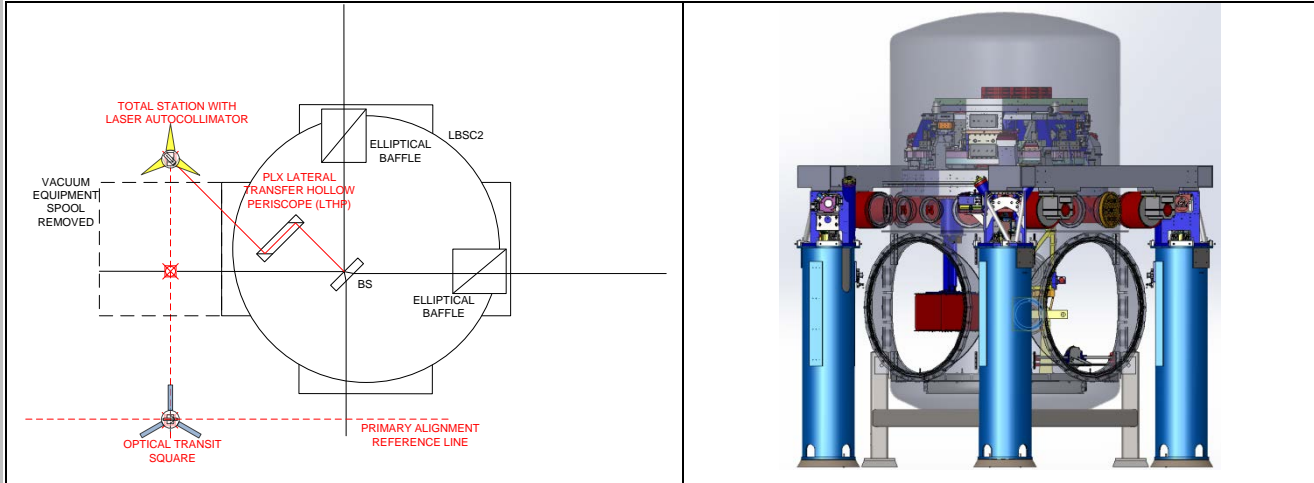

Figure 6: Drawing showing equipment setup for BS pitch & yaw alignments
- Set the LTHP on its stand so that it is approximately normal to the BS and positioned so that one line of site can see the BS surface and the other can see out the BSC door. See Figure 6.